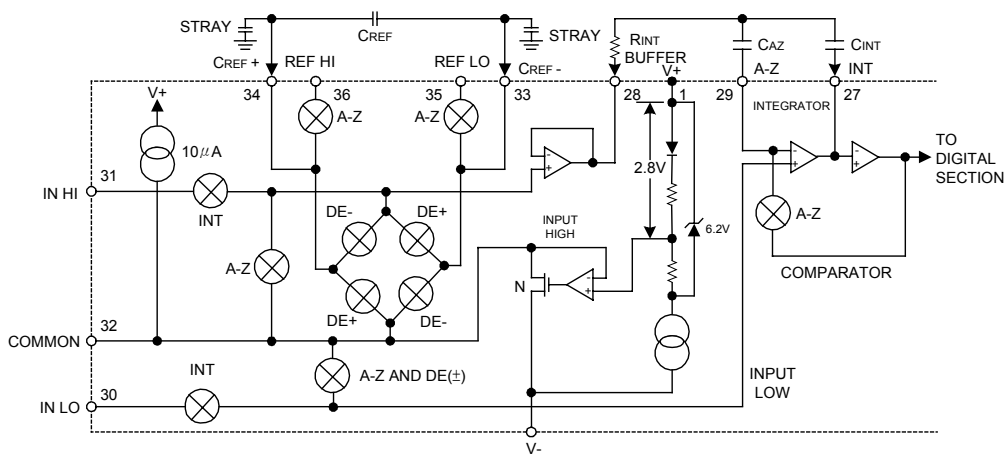

FIGURE 1. ANALOG SECTION
Note 3: Unless otherwise noted, specifications apply to the UTC 7106 at $T_a=25^{\circ}$ C, $f_{LOCK}=48kHz$, UTC 7106 is tested in the circuit of Figure 1.
Figure 1 shows the Analog Section for the UTC 7106. Each measurement cycle is divided into three phases. They are (1) auto-zero (A-Z), (2) signal integrate (INT) and (3) de-integrate (DE).
The UTC 7106, with its negligible dissipation, suffers from none of these problems. In either case, an external reference can easily be added, as shown in Figure 1.